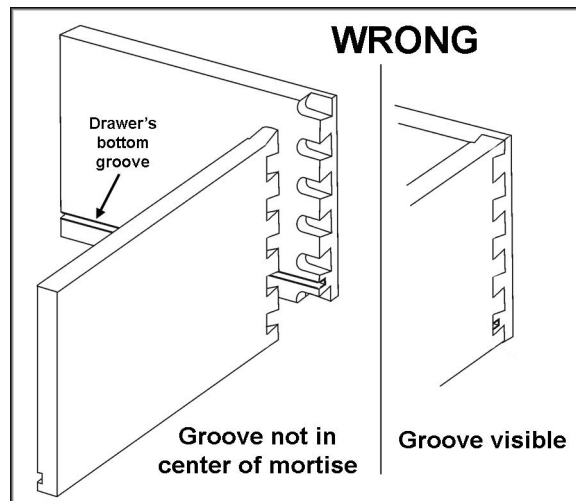

Figure 18
4. As noted, the position of the horizontal fence will affect the position of the vertical fence. Therefore, if you are making a drawer that has a bottom groove, the vertical fence should be set so that the bottom groove in the drawer piece to be tenoned will go through the center of a dovetail. That means the bottom groove of the mortised piece will go through the center of a mortise. This will prevent the groove from being visible on the outside of the assembled drawer. See Figure 18 and 19.